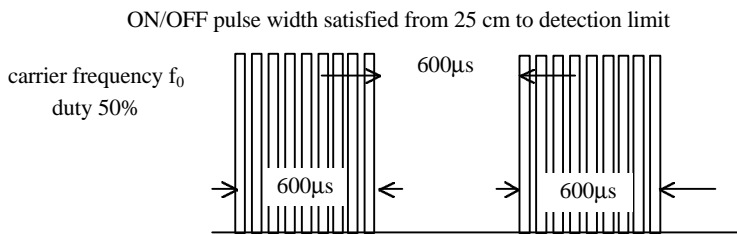

Fig 1. Burst Wave
(1) Measuring place .....Indoor without extreme reflection of light.
(2) Ambient light source...Detecting surface illumination shall be  $200 \pm 50$  Lux under ordinary hite fluorescence lamp of no high frequency lighting.
(3) Standard transmitter ...Burst wave indicated in Fig 1. of standard transmitter